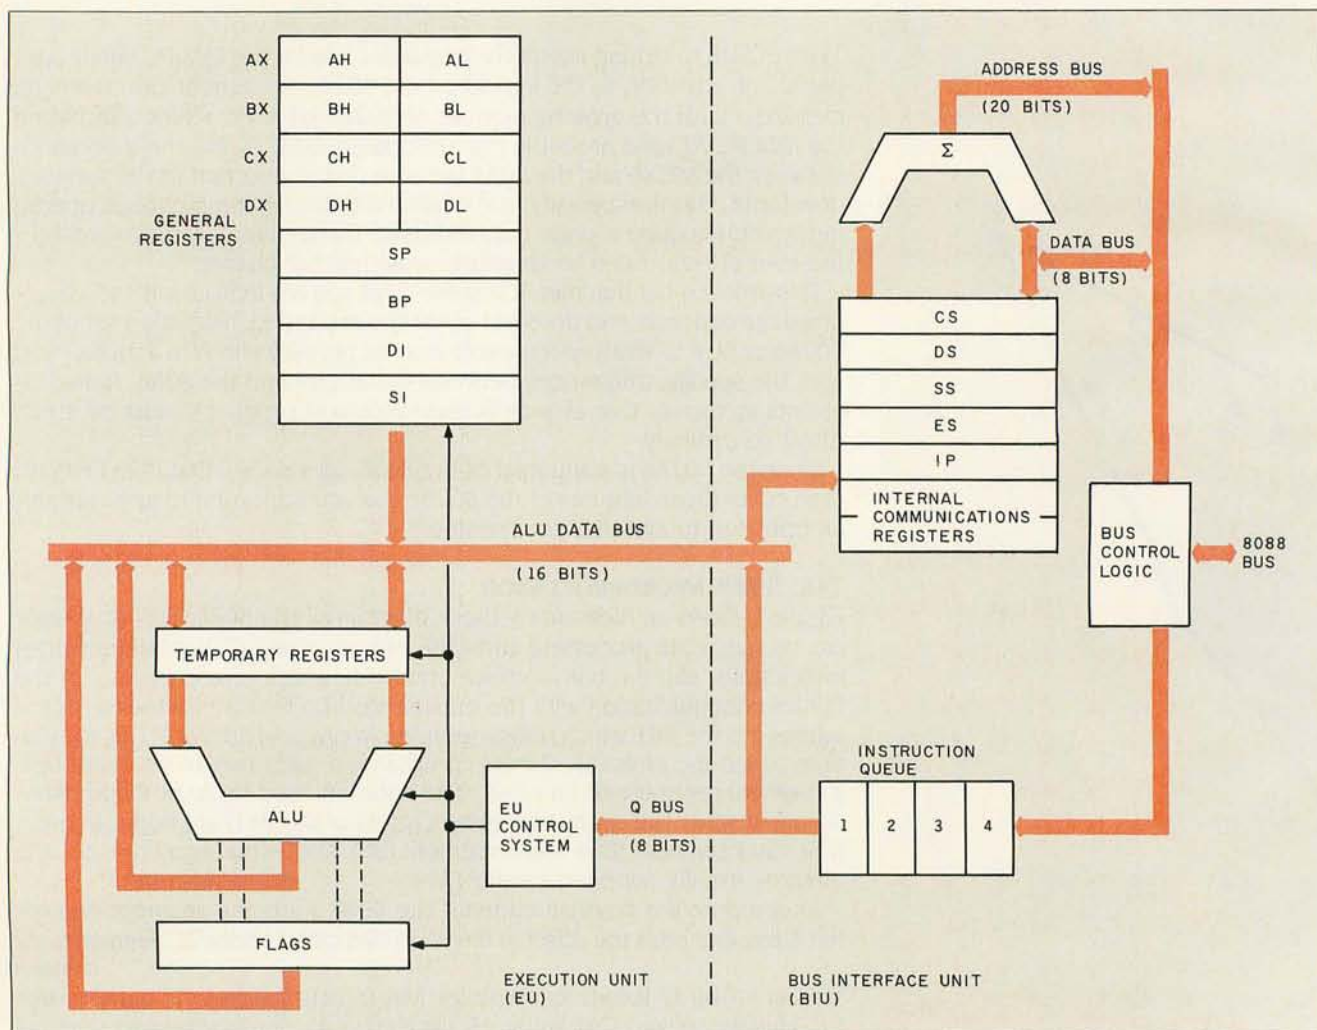

Figure 1: An 8088 elementary block diagram (see reference 1).
Figure 1 shows an elementary block diagram of the 8088. This processor has two separate processing units: the execution unit (EU), which executes instructions, and the bus interface unit (BIU), which is responsible for the 8088's communication with the outside world. The EU provides a logical address to the BIU, which translates it into a physical address. This translation, called the physical-address computation, uses two 16-bit quantities: a segment register and an offset. The notation used for logical addresses is *segment:offset*. The segment registers (parts of the BIU) are code segment (CS), data segment (DS), stack segment (SS), and extra segment (ES). The offset is usually supplied by the EU.